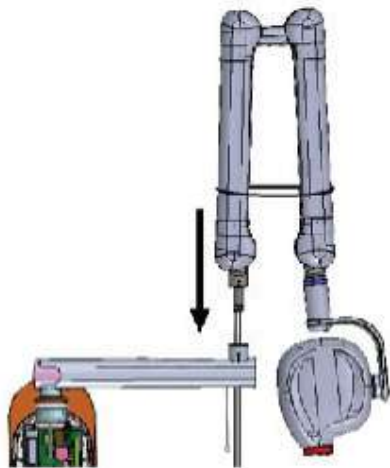

Figure 30
- Take the scissor-arm and insert the cables into the straight arm as shown in Figure 30 .